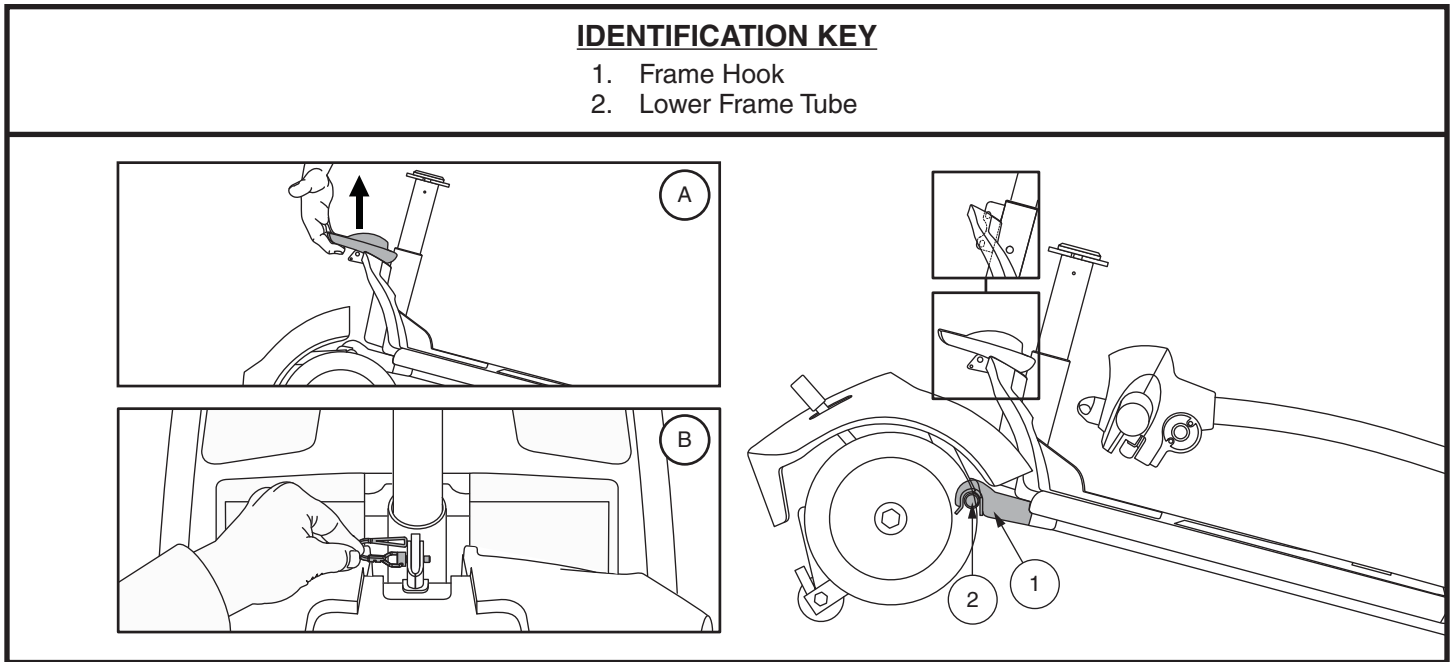

Figure 33. Frame Release Lever (Style A) and Frame Release Lock-up Pin (Style B)
4. Slowly separate the two sections of the Travel Scooter. **See figure 33.**
**NOTE:** Before attempting assembly, tilt the rear half of the Travel Scooter slightly back on the anti-tip wheels as shown in figure 33.
1. Use the frame release lever (or the seat post for models 36, 83, and 84 only) to lift the front section as you align the frame hooks of the front section with the lower frame tube of the rear section. **See figure 33.**
2. Once the frame hooks are over the lower frame tube, lower the front section and pivot the rear section simultaneously. This will engage the frame lock-up automatically for models 39, 40LX, 40X, 44X, 40E, 44E, 44LX, 49, 50LX, 54LX, 53, 53HD, 54, 54HD, 66, 67, 73, 74, and Jazzy ZTS. For models 36, 83, and 84, you will also need to reinstall the frame lockup pin to complete the body assembly. **See figure 33.**